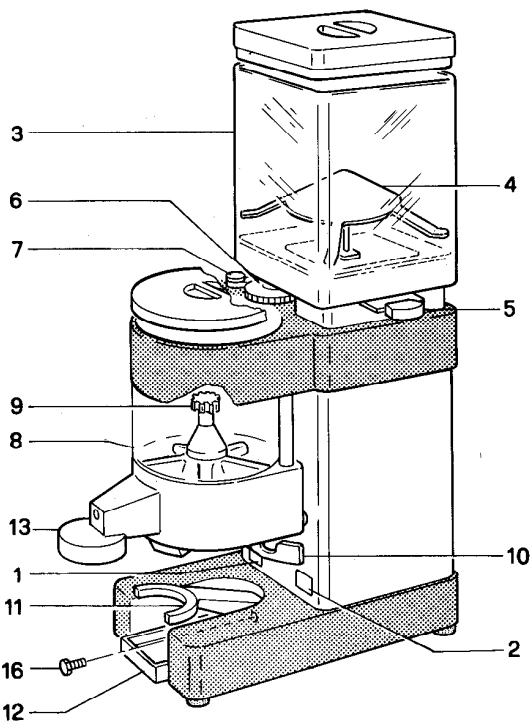

Fig.6
- By keeping the ferrule-stop button 7 pressed (Fig. 6), turn ferrule 6 in a clockwise direction (Fig. 6) until the grinders click; turn immediately ferrule 6 in a counterclockwise direction by 15-20 marks.
- By keeping ferrule-stop button 7 pressed (Fig. 6), turn ferrule 6 in a counterclockwise direction until the grinders click; turn immediately ferrule 6 in a clockwise direction by 30-40 marks.
7.1. Controls Fig. 6
- 1 Main switch with two positions: *when it is on position (I), the light is on and the machine is connected.*
7.2 Grinding adjustment Fig. 6